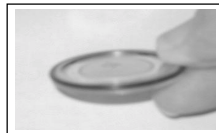

Fig. 68 - O-RING ORIENTATION
- Lightly lubricate the new Hatch O-ring with silicone grease and place it on the inner rim of the Battery Hatch (Fig. 68). Ensure that it is evenly seated.